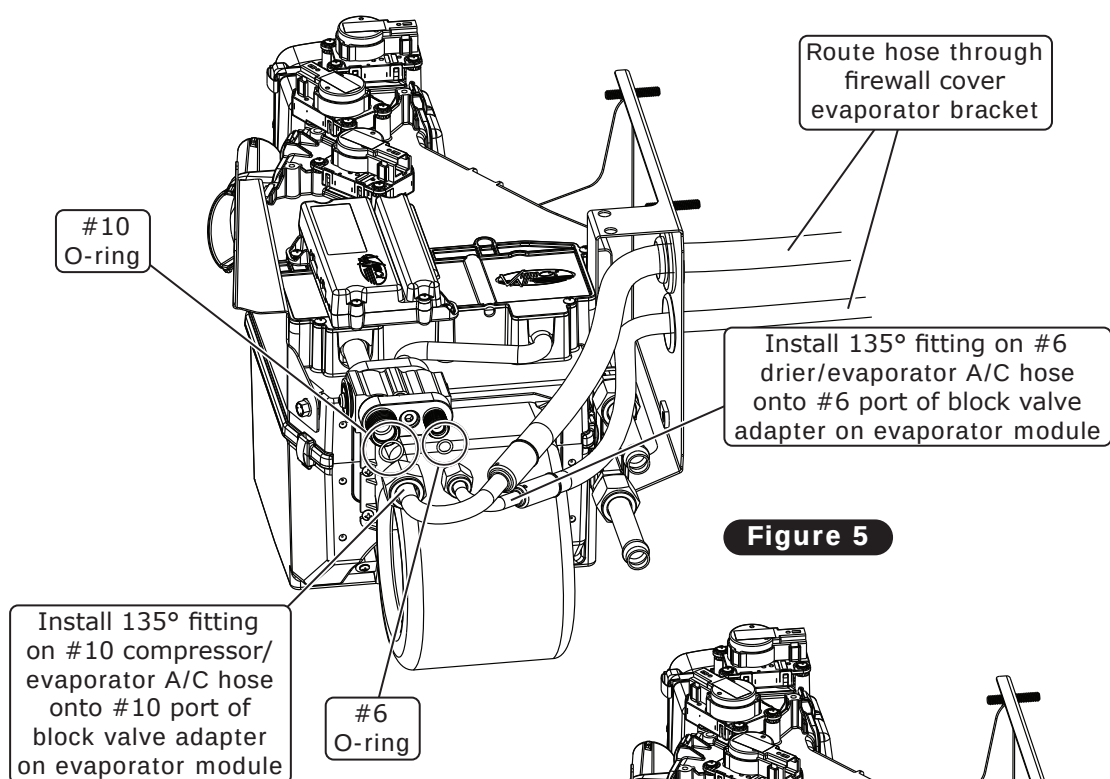

Figure 5
14. Using a properly lubricated #6 O-ring (See Lubricating O-rings, Page 9), install the 135° fitting on the #6 drier/evaporator A/C hose onto the #6 port of the block valve adapter on the evaporator module. Route the hose through the firewall cover evaporator bracket as shown in Figure 5, below.
15. Using a properly lubricated #10 O-ring (See Lubricating O-rings, Page 9), install the 135° fitting on the #10 compressor/evaporator A/C hose onto the #10 port of the block valve adapter on the evaporator module. Route the hose through the firewall cover evaporator bracket as shown in Figure 5, below.